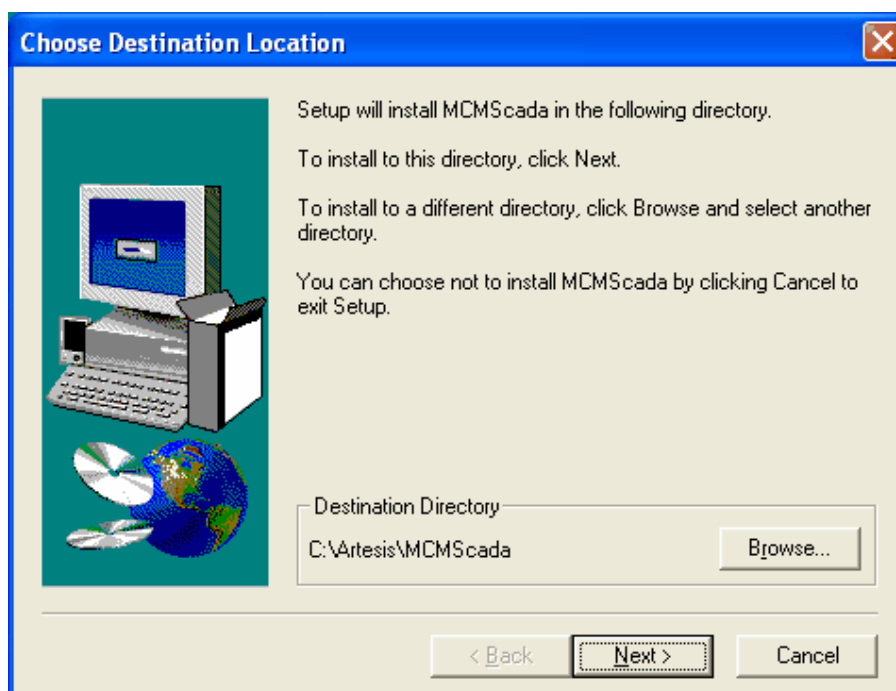

Figure 39: MCM Installation screen
4. Follow the instructions in the installation wizard in Figure 39.